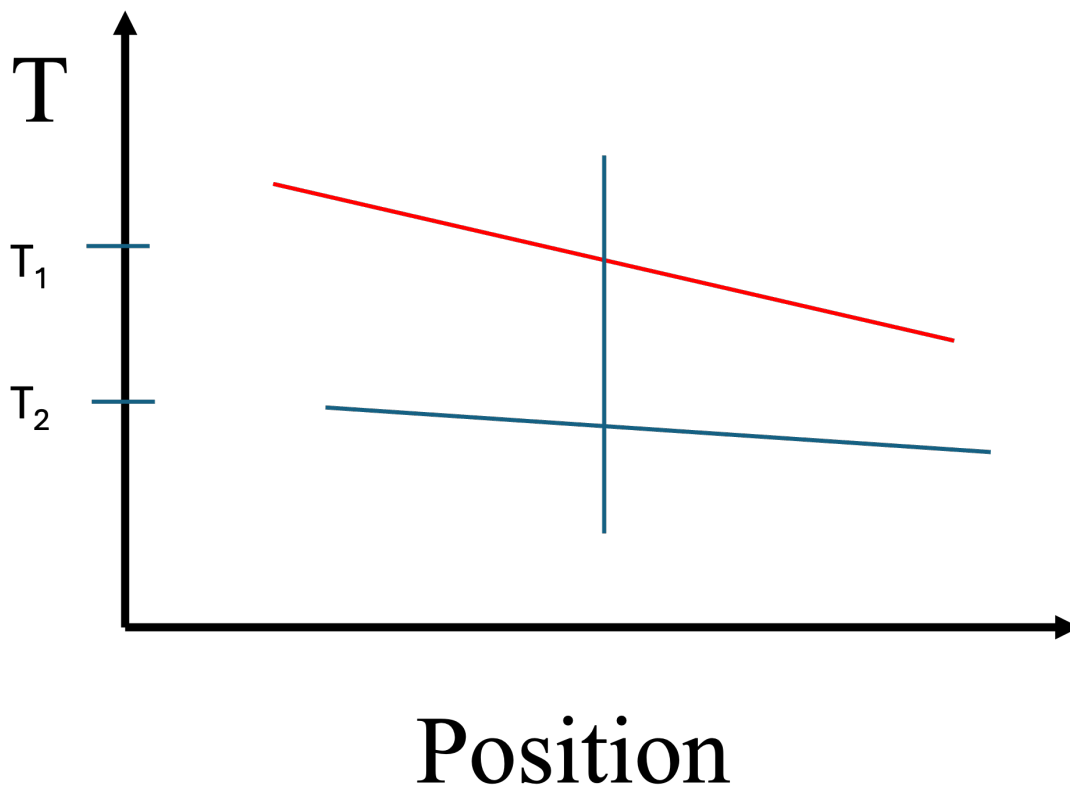

Fig. 6: Temperature gradient
- However, there are temperature gradients between the air and the water, and along the tube between inlet and outlet water and air flows, as shown in Fig. 6.